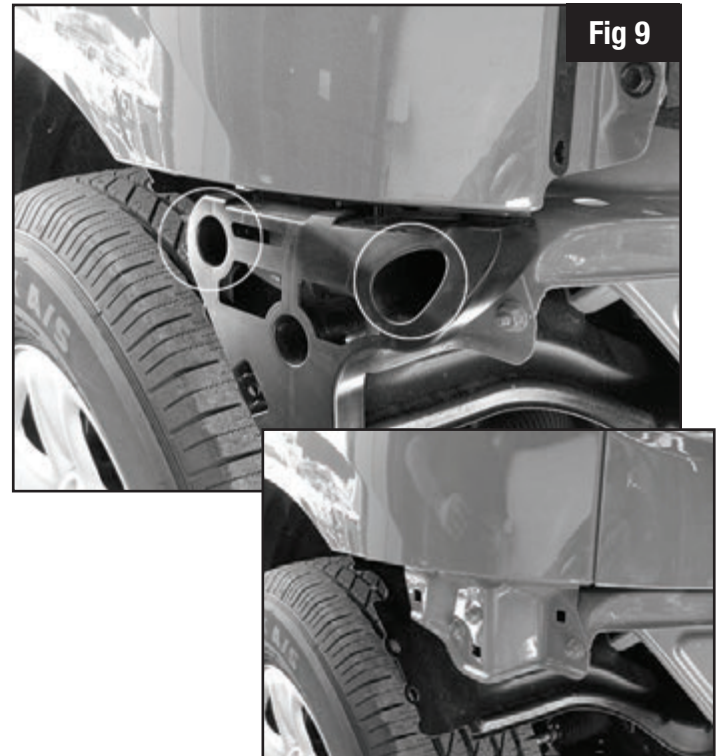

Fig 9
P) Remove the two 10MM screws using a socket from the plastic spacer pieces located on the lower fender. With screws removed, pull bracket straight off the truck complete on opposite side. **Fig 9.**